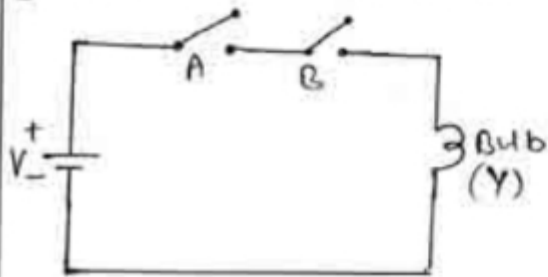

Fig 7
① Consider the simple electric circuit shown in fig 7